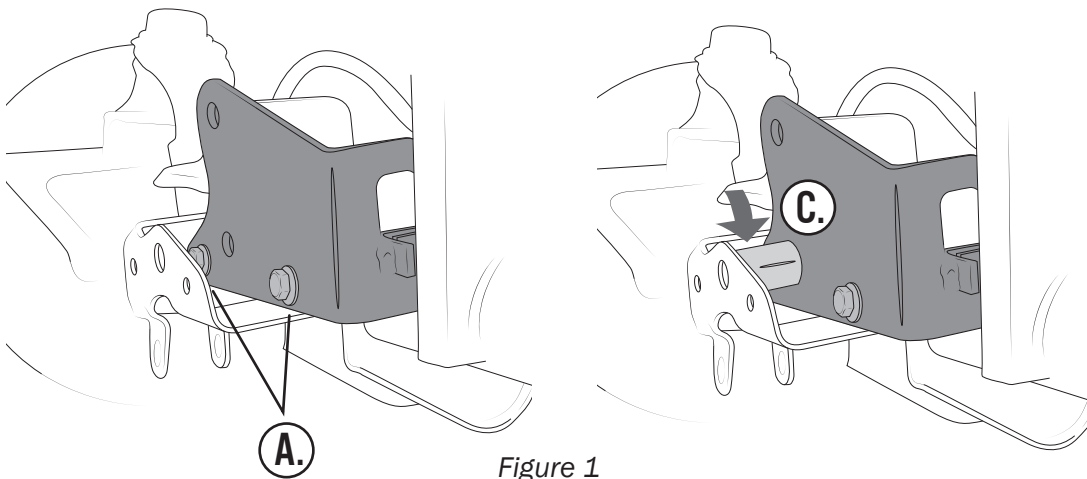

Figure 1
- A. Place bracket with “half moon” cutouts inside the original front track bar bracket and over the axle tube (Fig. 1) Insert two of the supplied $3/8" \times 1.0"$ L bolts and washers through the small holes in the bracket and the corresponding holes in the stock bracket, then add nuts and hand tighten.
- C. Insert the supplied spacer tube between stock track bar bracket and new bracket (Fig. 1), lining it up with the original track bar bolt hole. (this may require slight prying or tapping with a hammer.)